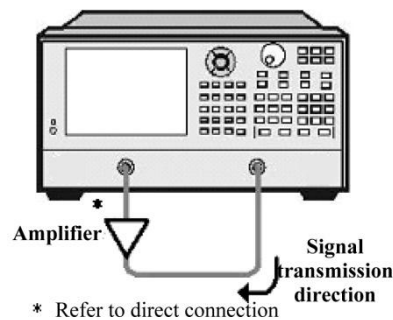

Fig. 8.22 Connection in Reverse Isolation Measurement
- 3) Connect the amplifier as shown in Fig. 8.22 and provide the DC bias.